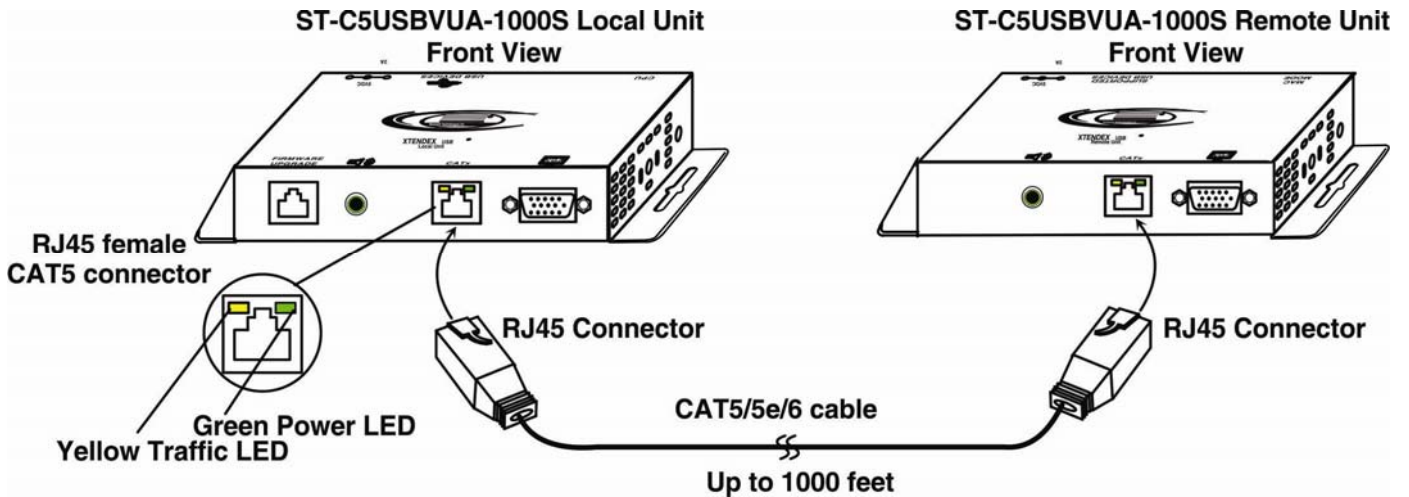

Figure 4- Connect the CAT5 cable to the Local Unit
6. Turn ON the monitor, then the CPU. The CPU and monitor should each react as if they were directly connected to each other. The yellow traffic LEDs on the Remote and Local Units (see Figure 4) will illuminate indicating there is proper communication between them.